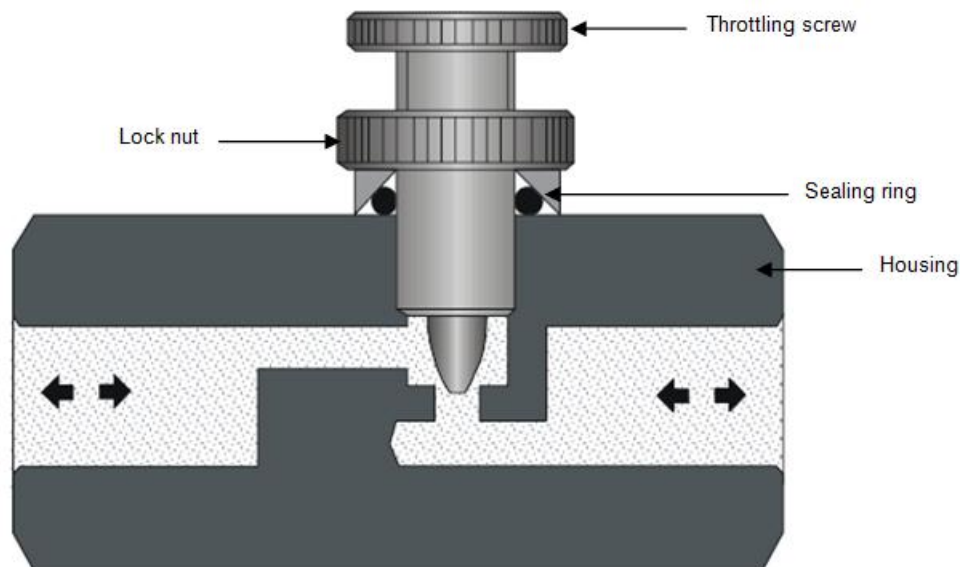

FIG 1.
- B. The variable flow control valve consist of the following components: (Fig 1)